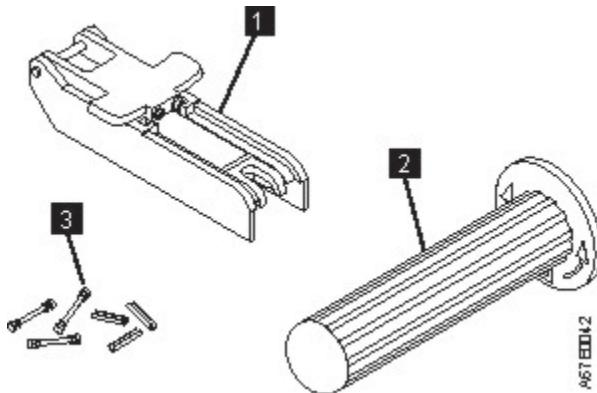

Figure 105. Leader pin reattachment kit
- **Leader pin attach tool** (See 1 in Figure 105 on page 236). A plastic brace that holds the cartridge door open.
- **Cartridge manual rewind tool** (See 2 in Figure 105 on page 236). A device that fits into the cartridge's hub and enables you to wind the tape into and out of the cartridge.
- **Pin supplies** (See 3 in Figure 105 on page 236). Leader pins and C-clips.